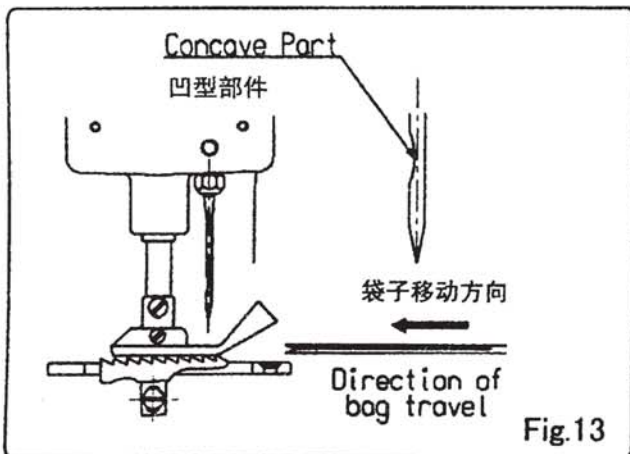

Fig.13
- Confirm proper direction of Needle ⑤ when Needle Bar ⑩ has been adjusted (Refer to Fig.13).
- 2) A bent or damaged needle results in thread break, skipping stitches, and other troubles. Replace it with a new one in the steps below. Install a new needle referring to figures 13 and 14. To remove the needle, turn pulley by hand until the needle bar reaches its highest position. Turn the needle clamp nut in the arrow mark using the spanner included in the accessory. You can now remove the needle from the needle bar. Two important points must be observed when you install a new needle.
- a) The shaved part of the needle must face the leading direction of the machine (Fig.13).
- 2) 缝针弯曲或损失将引起断线或跳针, 请参照Fig.13/14更换机针。要取下缝针, 需要用手转动皮带轮, 直到缝针杆达到最高位置。使用随机提供的附件包中的扳手, 在箭头方向上转动缝针夹。此时, 你可以从针杆上取下缝针。
- a) 缝针的凹陷部位必须面向机器的前方(图.13)。